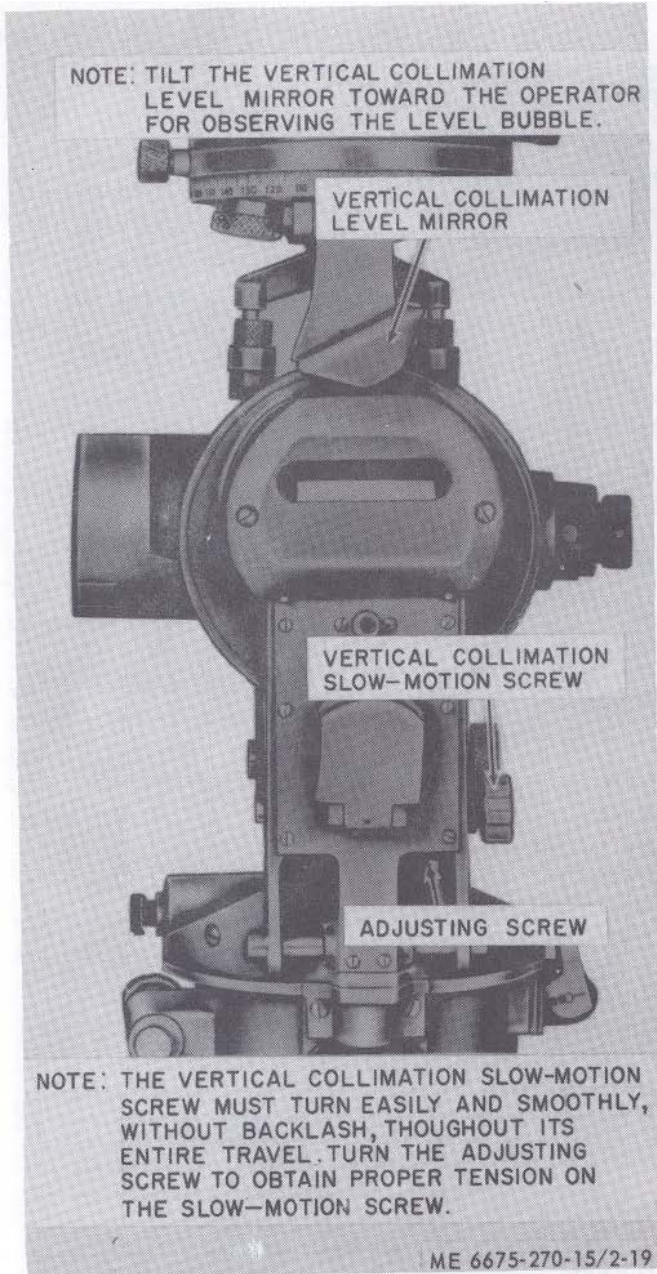

Figure 2-19. Collimation slow-motion screw adjustment.
d. *Collimation Slow-Motion Screw.* Refer to figure 2-19 and adjust the collimation slow-motion screw.